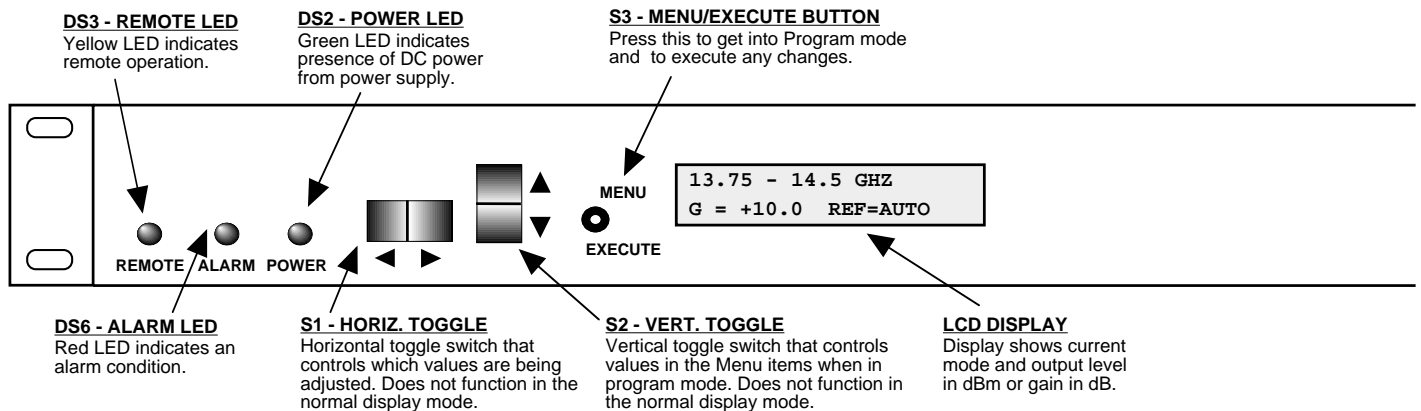

FIGURE 2.2 3116-137 Front Panel Controls and Indicators
Figure 2.2 shows the front panel controls and indicators.
6. Be sure DS2 (green, DC Power) is on and DS6 (red, Alarm) is off (Figure 2.2).
Alarm indications appear on the LEDs (see Figure 2.2).